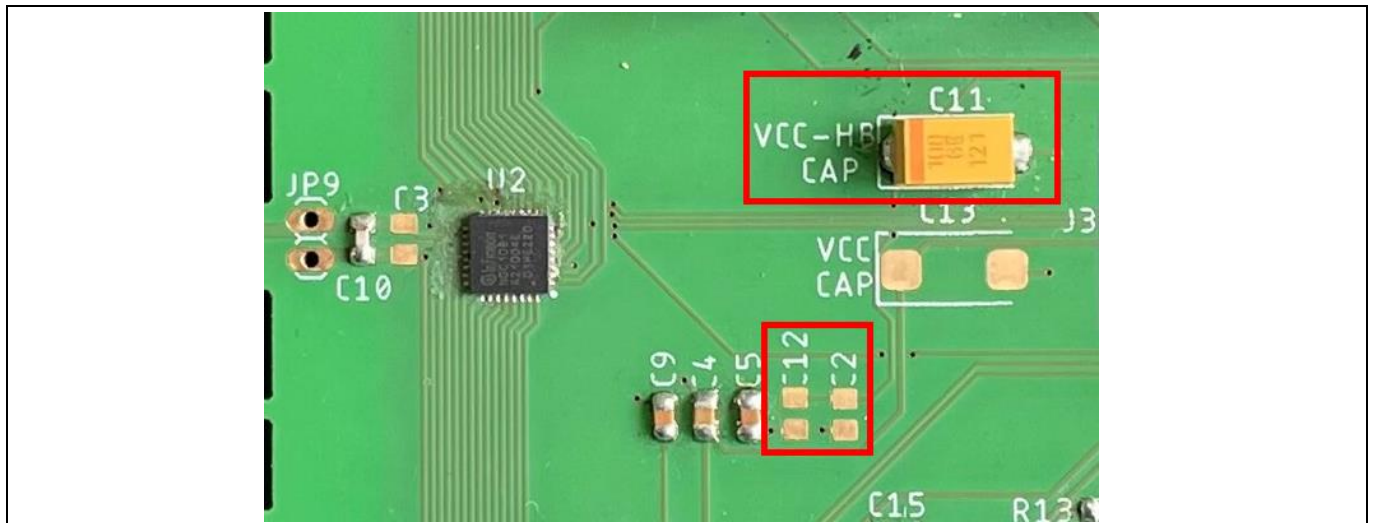

Figure 2 Capacitors for storing harvested energy to use the MA pin as an output power source
- When planning to use the half-bridge, solder C2, C11, or C12 if needed for harvesting energy (as shown in Figure 2).